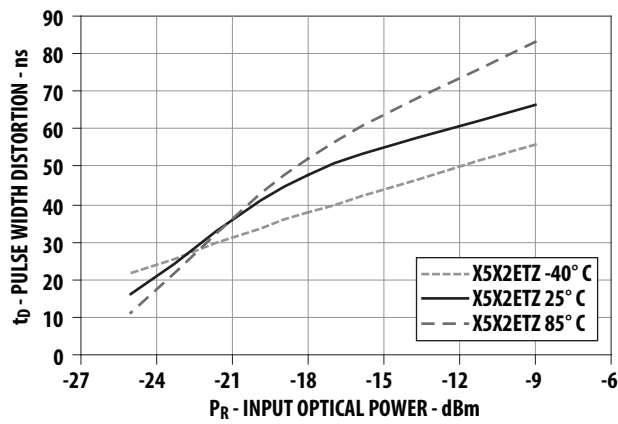

Figure 11. Typical link pulse width distortion vs. optical power
- The LED drive circuit of Figure 11 is required for 1 Mbd operation of the HFBR-25X2ETZ.